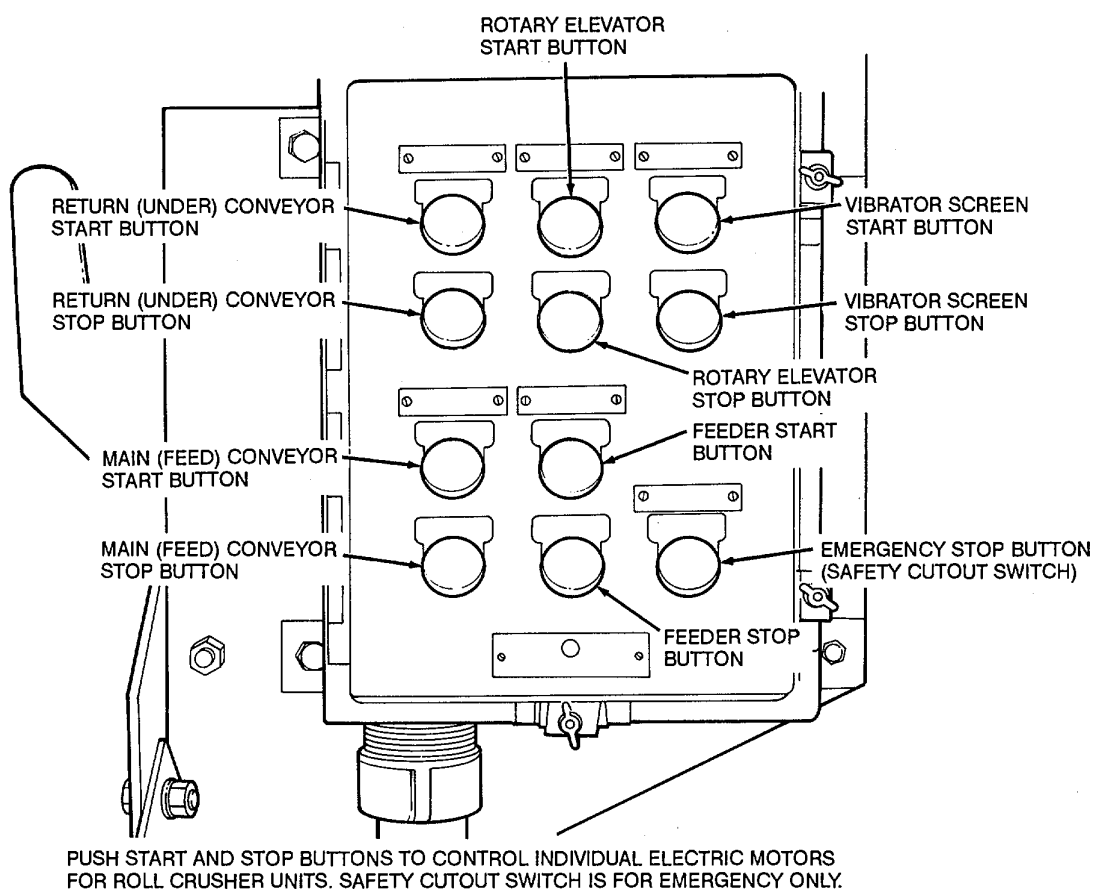

Figure 35. Operator's control panel operation
- (1) Push stop buttons on motors that are in operation at operator's control panel (fig. 35).